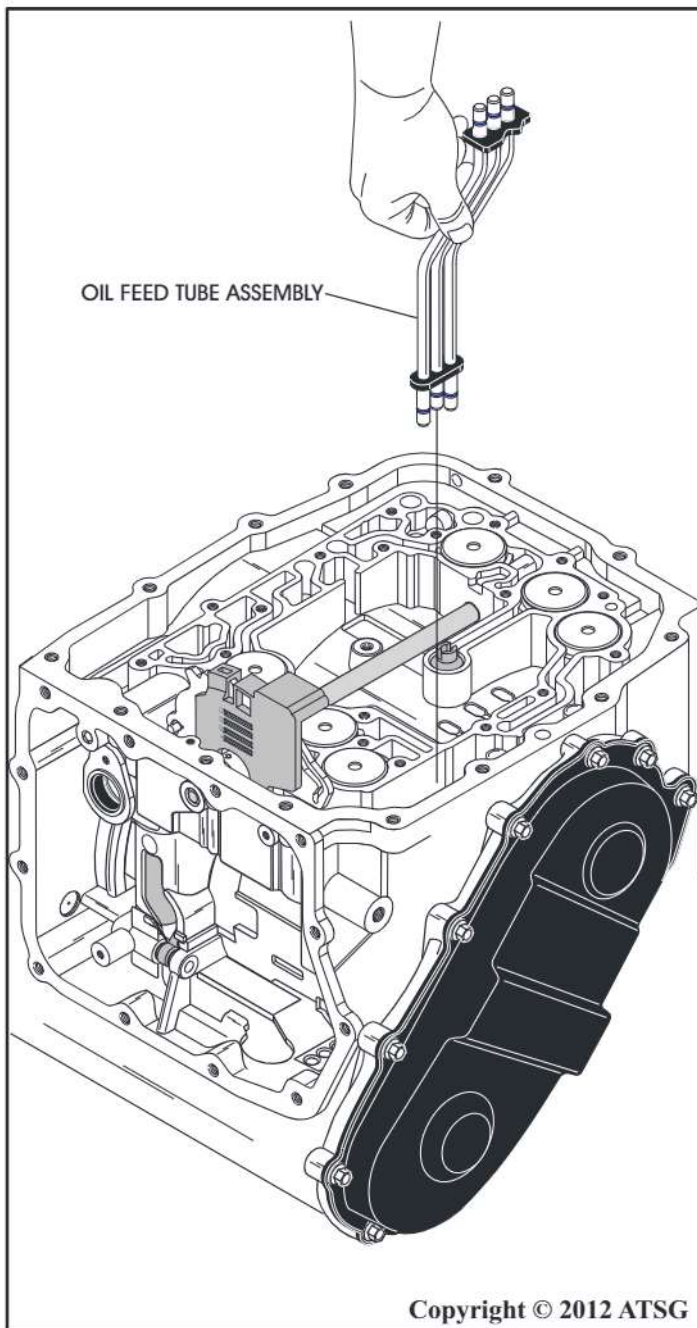

Figure 52
23. Remove the oil feed tube assembly from case, as shown in Figure 52.